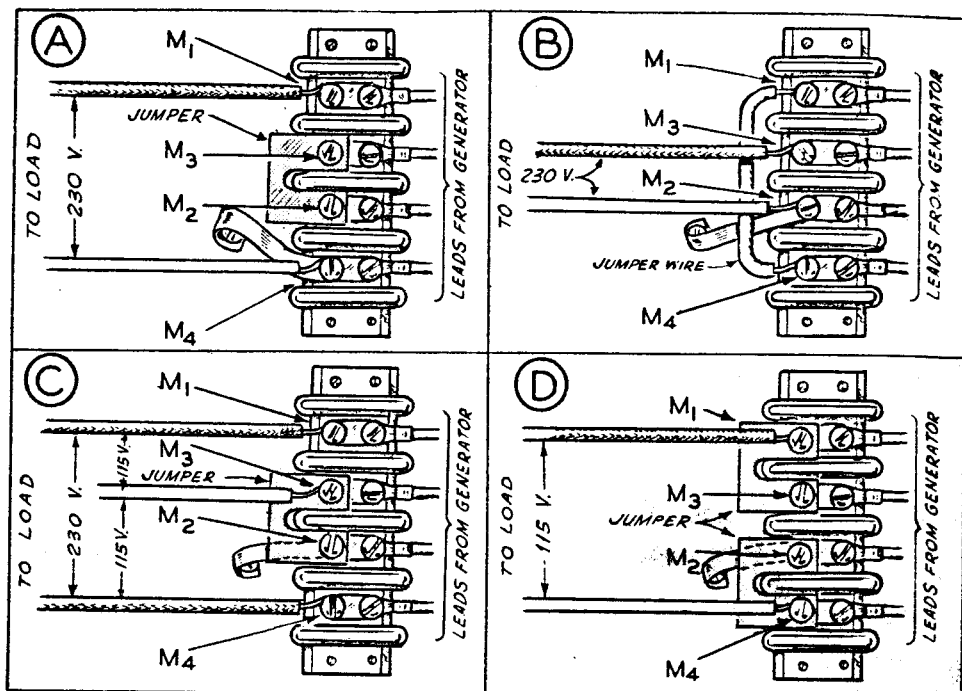

Fig. 8 Single Phase Plant
Load connections are to be made to terminals inside the terminal box on the side of the generator. These load terminals are marked M1, M3, M2, and M4 from top to bottom. When the plant is shipped, two heavy jumper bars are connected across terminals M3 and M2. This jumper connection provides for two 115 volt circuits (with 1/2 the plant capacity available on each separate circuit), or one 230 volt circuit. Refer to C, Fig. 8. For 115 volt service, connect the black (hot) wires to the M1 and M4 terminals, and the white (ground) wire to the M2 or M3 terminal. Remember that ONLY ONE HALF the rated capacity of the plant will be available on either of the two separate 115 volt circuits. The two black wires will give 230 volt ungrounded service.
If the full rated capacity of the plant at 115 volts ON ONE CIRCUIT ONLY, is desired, remove the two jumper bars from across terminals M3 and M2. Reconnect the jumper bars, one across terminals M1 and M3, and the other jumper across terminals M2 and M4. Connect the black (hot) load wire to the M1 terminal, and the white (ground) wire to the M4 terminal. Refer to D, Fig. 8.
If 230 volt current only is to be used, and NEITHER load wire is white (grounded), leave the jumpers connected across terminals M3 and M2. Connect load wires to terminals M1 and M4. Refer to C, Fig. 8.
A. Remove the two jumper bars connecting terminals M3 and M2, temporarily. Disconnect the short grounding wire from the M2 terminal and connect it to the M4 terminal. Reconnect the jumper bars across terminals M3 and M2. Connect the black (hot) load wire to the M1 terminal, and the white (grounded) load wire to the M4 terminal. Refer to A, Fig. 8.
B. Remove (and save for possible future use) the two jumper bars connecting terminals M3 and M2. Using a short length of #10 or larger wire, connect terminals M1 and M4 together. Connect the black (hot) load wire to the M3 terminal, and the white (grounded) load wire to the M2 terminal. Refer to B, Fig. 8.
Be sure the jumper connections are properly made, as explained under **VOLTAGE SELECTION, SINGLE PHASE PLANT**. Connect the load wires to the proper terminals as shown, according to the jumper connections made, Fig. 8.
Some early plants with SPEC designation ending in the letter "A" were not internally grounded. If inspection shows that there is no ground jumper wire between the M2 terminal and a grounding screw inside the terminal box (Fig. 8), a similar ground connection must be made. Run a short length of No. 10 wire between the battery negative terminal and the M2 terminal, if 115/230 volt service is to be used. If grounded 230 volt service is to be used, connect the ground jumper to the M4 terminal, instead of to the M2 terminal. **BE SURE THIS GROUND JUMPER WIRE IS PRESENT IN ALL CASES WHERE USING AUTOMATIC CONTROL EQUIPMENT.**